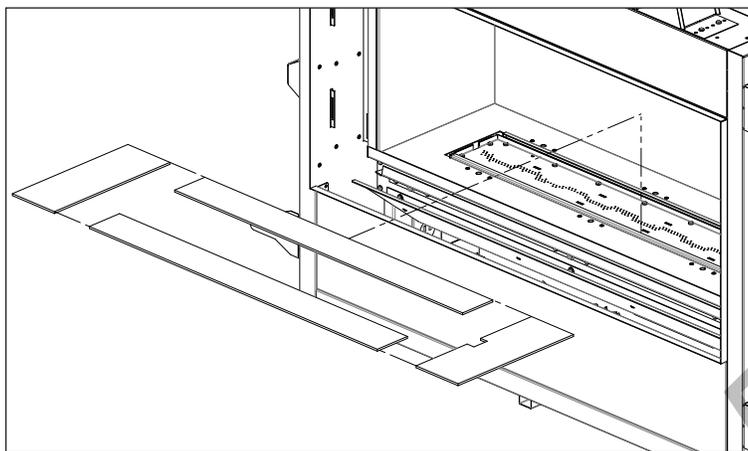

Figure 59: Burner Bezel Placement
2. Place the bezels directly onto the burner platform as shown in Figure 59. No fasteners are required.